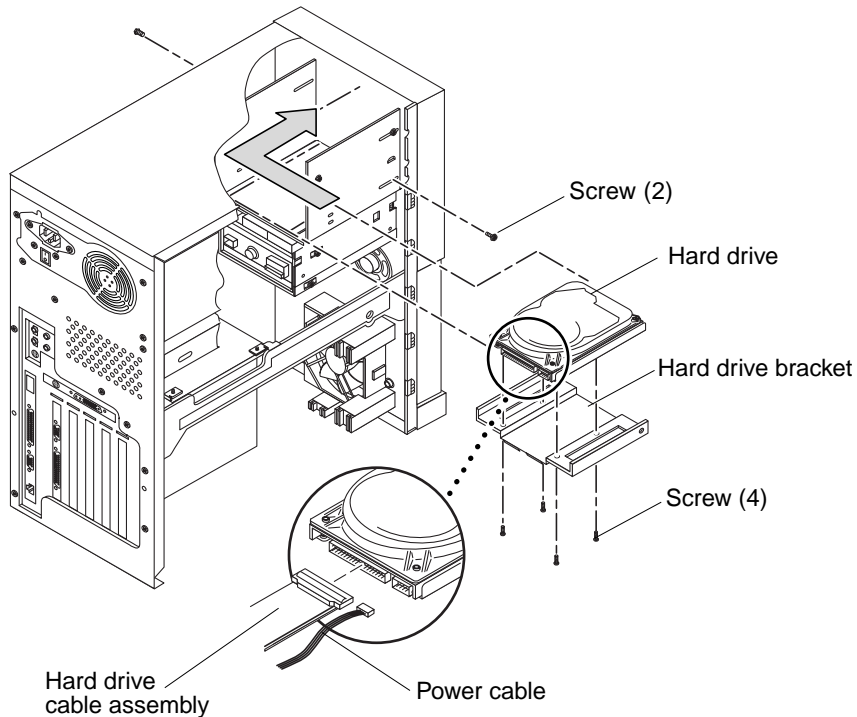

FIGURE 7-3 Removing and Replacing a Secondary Hard Drive (Chassis Front)
- 4. Remove the secondary hard drive from the chassis front as follows (FIGURE 7-3):**
3. Replace the secondary hard drive into the chassis front as follows (FIGURE 7-3):